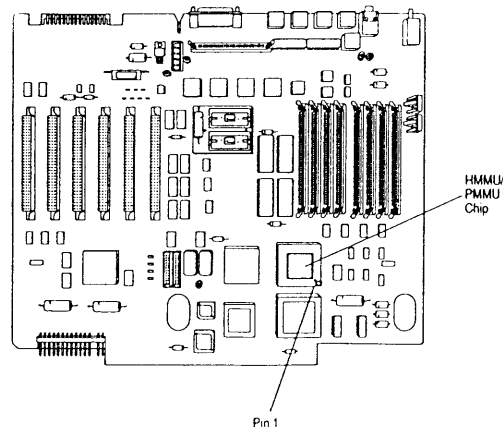

Figure 5-7
2. **Figure 5-7.** Locate the HMMU. Use the small flat-blade screwdriver to pry gently along the sides of the chip to remove the HMMU from the socket.
3. **Figure 5-7.** With the front of the Macintosh II facing you, position the PMMU so that the line on its surface is facing the lower-right corner of the board.